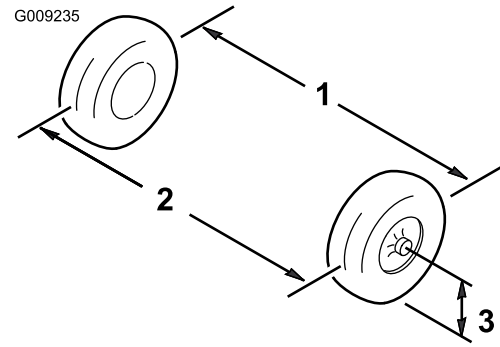

Figure 12
1. Measure the distance between both of the front tires at the axle height at both the front and rear of the front tires (Figure 12).